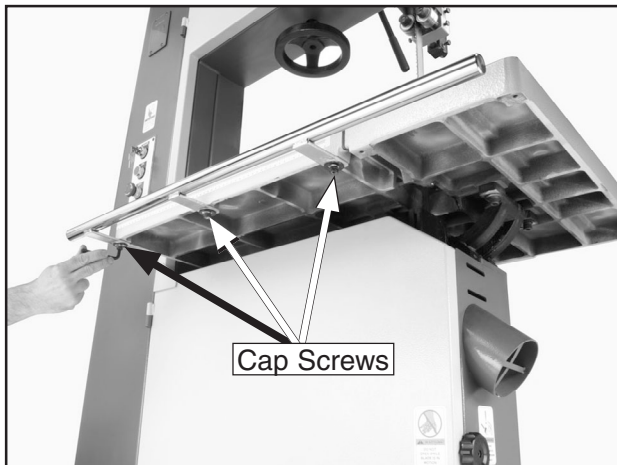

Figure 31. Cap screws securing rail to table.
4. Loosen the three cap screws that secure the rail to the table (**Figure 31**).